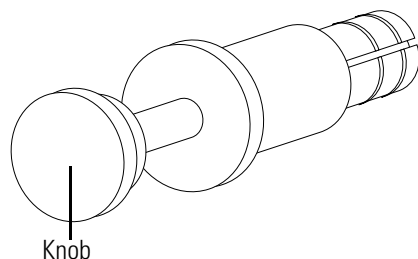

Figure 3-40. Inlet valve seal tool
4. Pull out the knob on the inlet valve seal tool (P/N 119283-0001)¹, so that the knob is loose. See Figure 3-40.